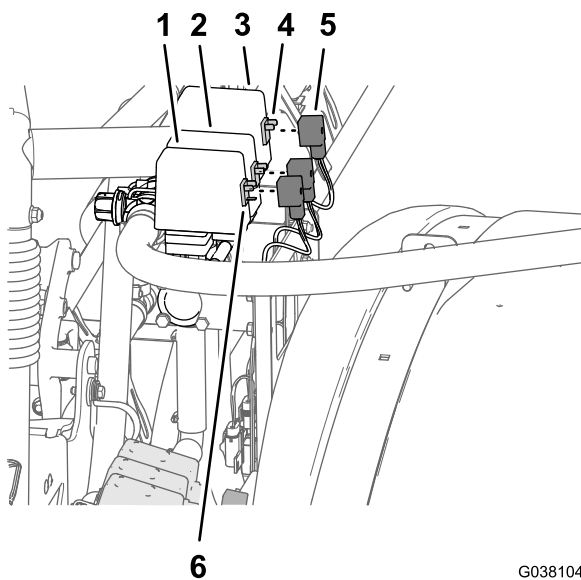

Figure 7
4. Remove the screw that secures the 3-contact connector of the wire harness labeled MASTER SPRAY VALVE from right master spray valve (Figure 7).
5. Remove the 3-contact connector of the wire harness from the valve (Figure 7).